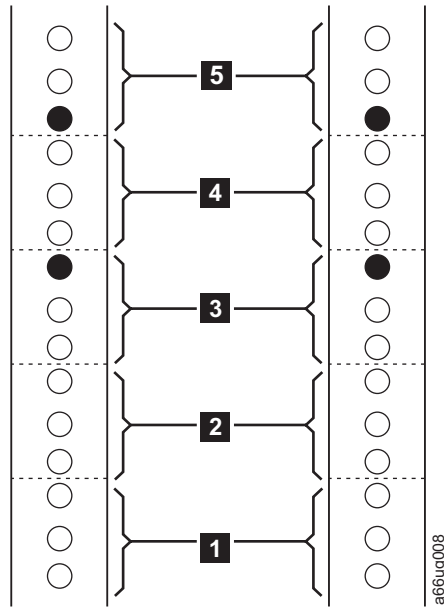
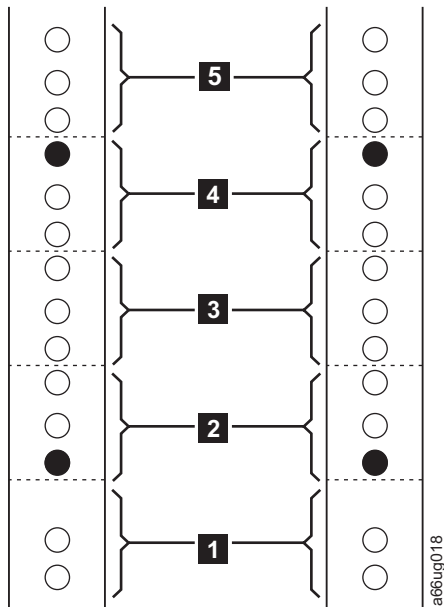

Figure 3-4. EIA identification and rail stud locations for FRONT vertical rack rails
Figure 3-5. EIA identification and rail stud locations for REAR vertical rack rails
1. Using a pencil, make a mark below the first EIA (**1** in Figure 3-4 and **1** in Figure 3-5) in the five EIAs selected in each vertical rail in your rack. The bottom of the rail shelf must align with the bottom hole of the first EIA in the front vertical rails in your rack.
2. The rail studs are located on the front and back of each rail included in the Rack Mount Kit. The rail studs will be positioned as indicated by the black filled circles in Figure 3-4 and Figure 3-5:
- Top hole of the third EIA (**3** in Figure 3-4).
- Bottom hole of the fifth EIA (**5** in Figure 3-4 on page 3-7).
- Bottom hole of the second EIA (**2** in Figure 3-5 on page 3-7).
- Top hole of the fourth EIA (**4** in Figure 3-5 on page 3-7).
- Top hole of the first EIA (see Figure 3-4 on page 3-7)
- Bottom hole of the third EIA in the vertical rack rails (see Figure 3-4 on page 3-7)